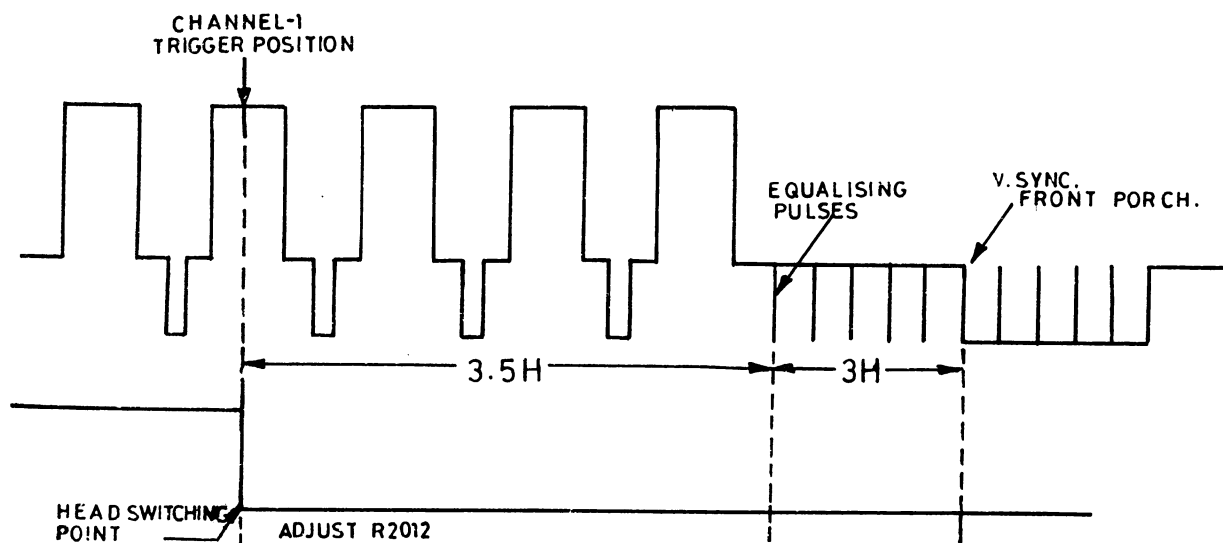

Fig. 11.6 Channel one head switching point adjustment wave forms
This adjustment is to ensure that two video heads are switched on at the correct time. That is, the video head switching occurs 6.5 Horizontal lines (6.5 H) before the start of the vertical sync. pulse or three lines before the start of the equalizing pulse as shown in fig. 11.6 & 11.7.
3. Now adjust the PG shift control R 2012 on the servo section so that the falling edge of switching pulse is 6 ± 0.5 H before the beginning of the V-sync as shown in fig. 11.6.